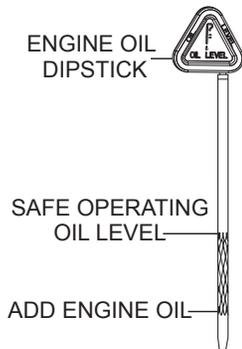

Figure 11. Checking Engine Oil
2. Check the oil level shown on the dipstick to determine if engine oil is low (Figure 11).